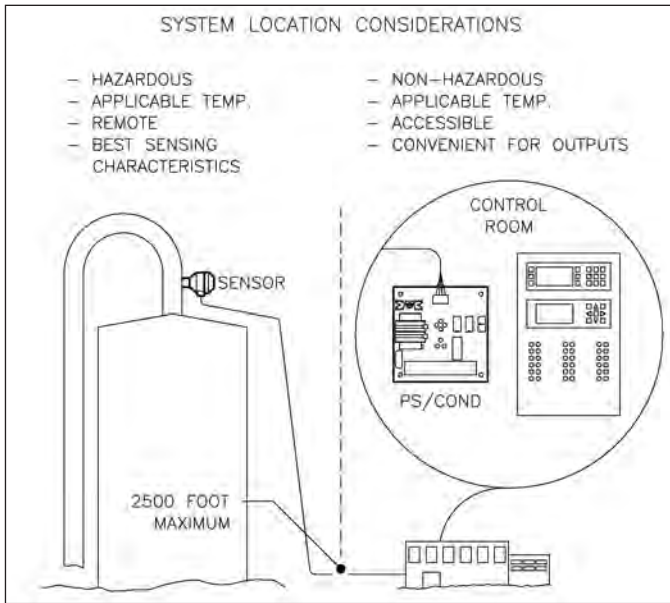

Figure 1
**CHOOSING THE SYSTEM LOCATION** (See Figure 1)